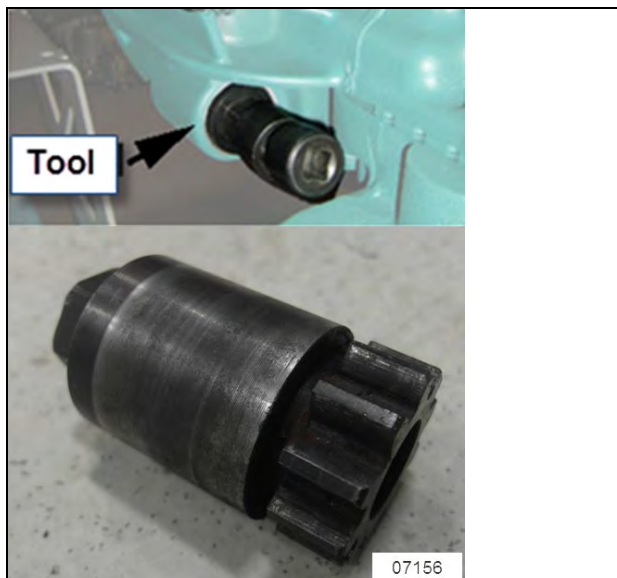

FIGURE 10: VOLVO ENGINE TURNING TOOL #88800014
3. With the engine starter removed, use Volvo engine turning tool #88800014 (Figure 10) to align one of the 12 attaching screw holes in the flex plate with the engine starter access opening. If you do not have the Volvo tool, place a wrench on the crankshaft pulley attaching screw to turn it and therefore turn the flex plate.
12. Remove the headless guide bolt from the flex plate adapter through the engine starter access opening. Replace it with a self-locking screw, finger-tighten then start the remaining screws. Use Volvo engine turning tool #88800014 (Figure 10) to align holes. If you do not have the Volvo tool, place a wrench on the crankshaft pulley attaching screw to turn it and therefore turn the flex plate.